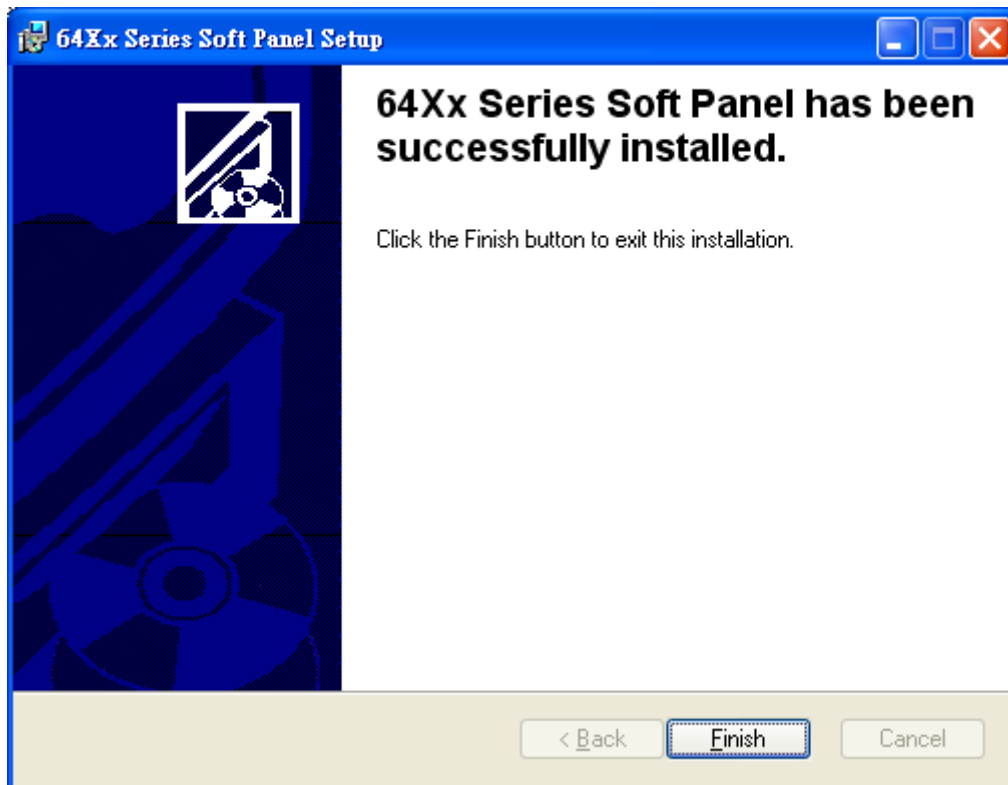

Figure 2-5 Installation Complete Window
- When the installation is done, the window appears as Figure 2-5.